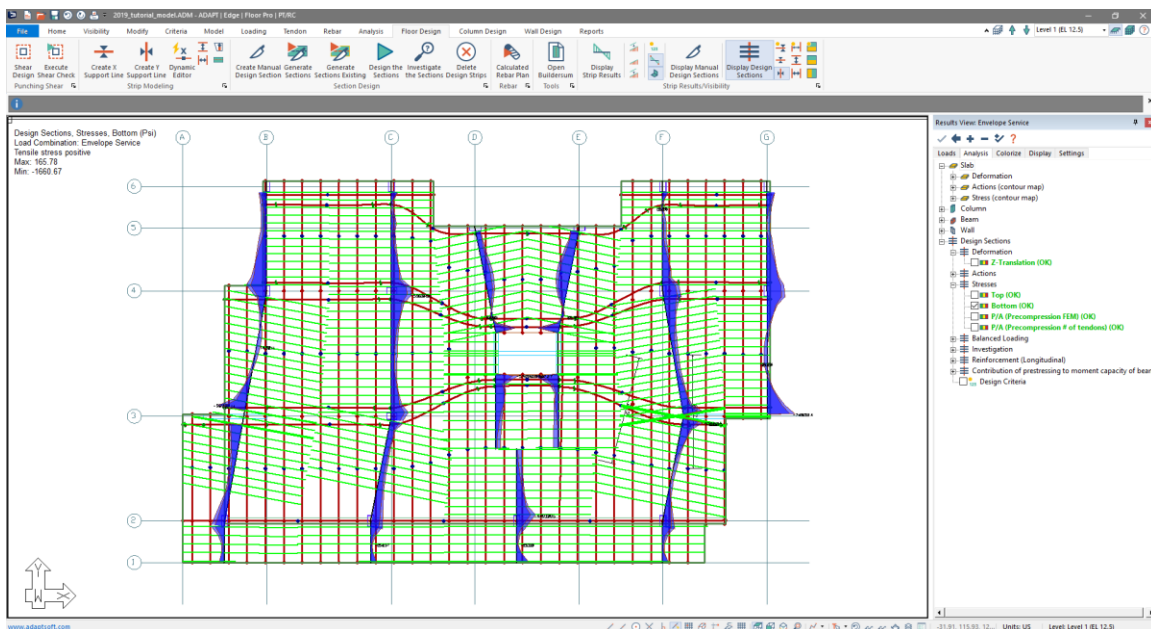

Figure 9-101
- When the optimization and design is finished for the distributed direction you should be able to review stresses and precompression for the Y-direction support lines and see them all passing. When all are passing you should see *OK* next to each result in the *Results Browser* window as shown in **FIGURE 9-101**.